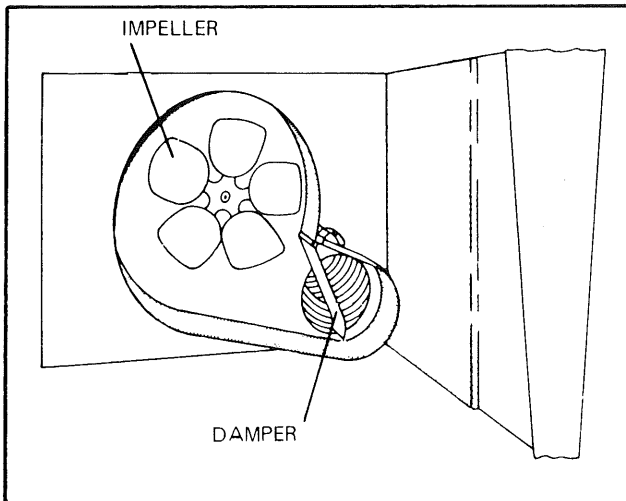

Figure 3-4. Blower Impeller
**3-18 BLOWER IMPELLER REMOVAL (Refer figure 3-4)**